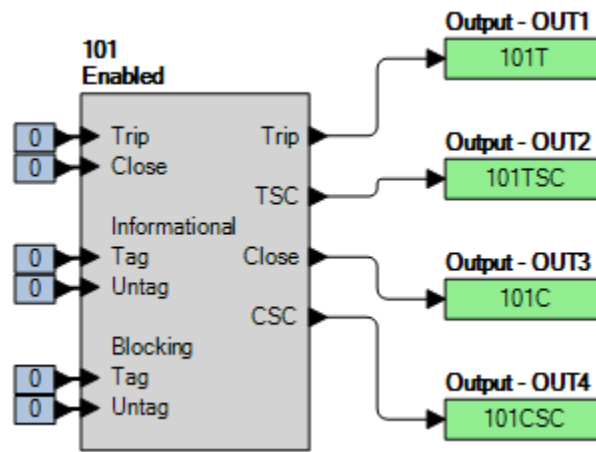

Figure 75-1. BESTlogicPlus Settings
Step 2: Use BESTCOMSP*lus* to configure the BESTlogic*Plus* Programmable Logic shown in Figure 75-1.